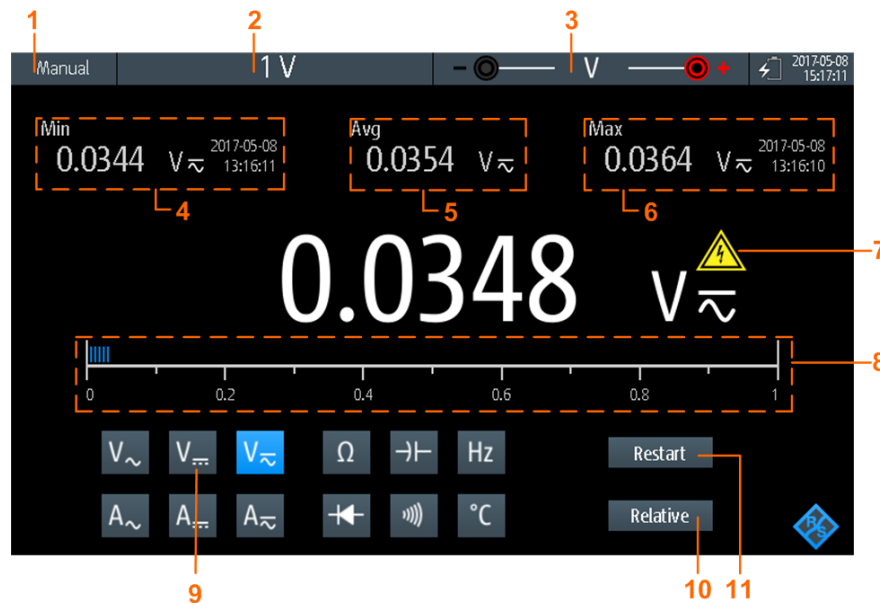

Figure 7-2: Display of the digital multimeter
3. Select the measurement type (no. 9 in Figure 7-2).